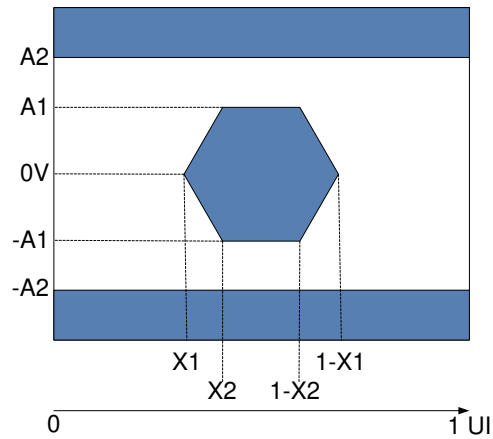

Figure 5-11. HSSI Eye Characteristics
(1) All power supply connections are required to operate the DMD: V_{DD}, V_{DDA}, V_{OFFSET}, V_{BIAS}, and V_{RESET}. All V_{SS} connections are required to operate the DMD.
(2) All voltage values are with respect to the ground pins (V_{SS}).
(3) To prevent excess current, the supply voltage delta | V_{DDA} – V_{DD} | must be less than the specified limit.
(4) To prevent excess current, the supply voltage delta | V_{BIAS} – V_{OFFSET} | must be less than the specified limit.
(5) Supply power dissipation based on three global resets in 200μs.
(6) LVC MOS input specifications are for pin DMD_DEN_ARSTZ.
(7) LVC MOS output specification is for pins LS_RDATA_A and LS_RDATA_B.
(8) Refer to Figure 5-11, Receiver Eye Mask (1e-12 BER).
(9) Defined in the *Recommended Operating Conditions*.